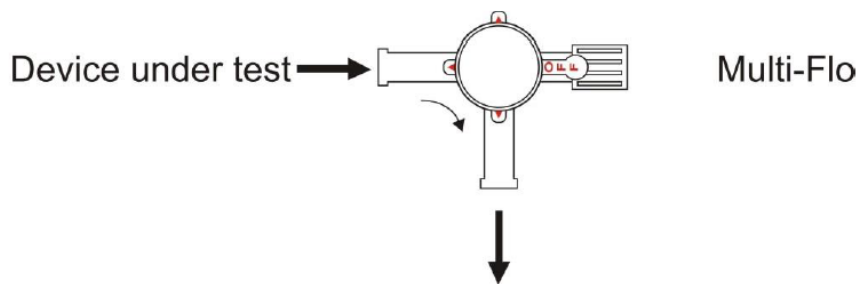

Figure 2
- i. Turn the 3-port valve to the position shown in figure 2 (see next page).
After priming the Multi-Flo connect an administration set between the device under test and the 3-port valve as shown in figure 2.